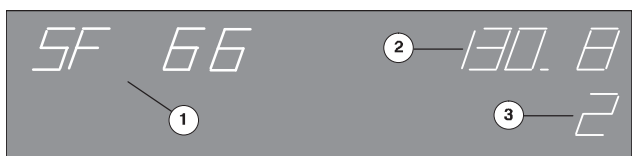

Fig. 55 SF 66: Press angle
2. Using the numeric keypad, call up special function 66 *Press angle* (Fig. 55/1). The display shows the current press angle (Fig. 55/2) and the position of the circumferential register (Fig. 55/3).